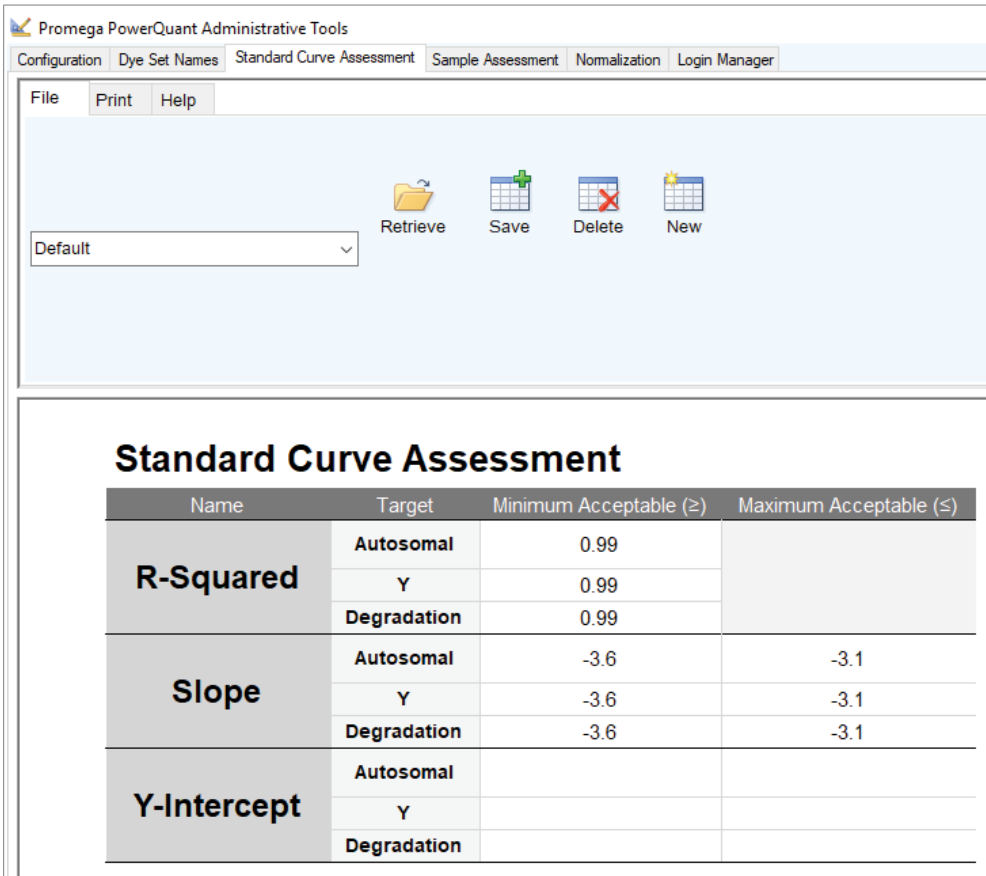

Figure 67. The 'Standard Curve Assessment' tab.
1. Select the 'Standard Curve Assessment' tab and select the **New** icon (Figure 67).